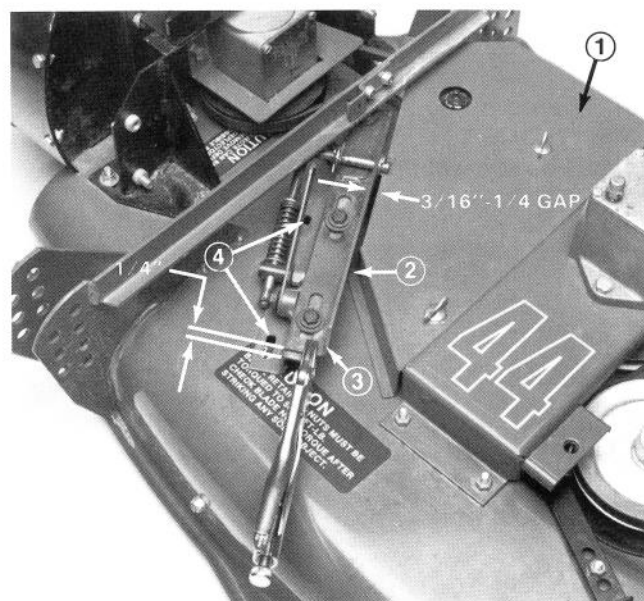

Figure 12
20. Install new deck cover (Fig. 12).
Note: For older cutting units with knob type cover fasteners, the 1/4 turn fastener holes on the new deck cover must be punched out (Fig. 12).
1. Adjust idler slide so there is 1/4 in. from end of slide to end of mounting bracket. Clamp slide to retain this position while mounting to deck (Fig. 12).
2. Position idler assembly on deck so edge is parallel with belt cover and there is a 3/16-1/4 in. gap (Fig. 12).
3. With idler assembly clamped, slide idler pulley firmly into blower belt (Fig. 12).